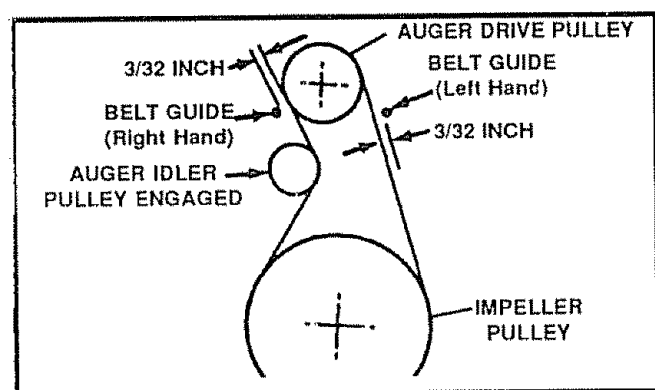

FIG. 29
- ▶ Measure the distance between the belt guides and the belt (See Fig. 29). The distance should be $3/32$ " for each guide.